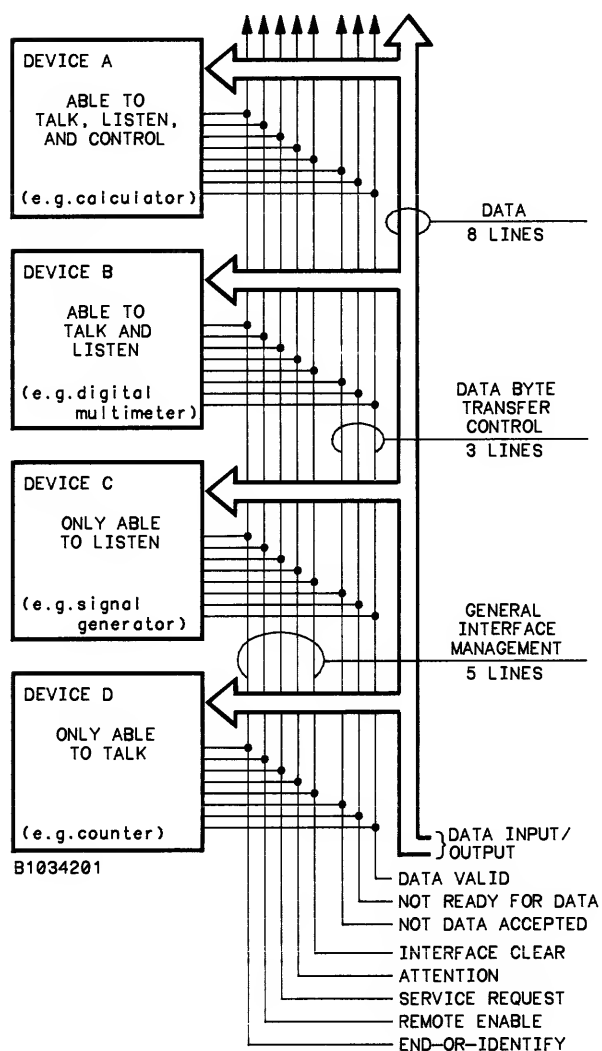

Figure A-1. HP-IB Interface Capabilities and Bus Structure.
The HP-IB structure is diagrammed in figure A-1. Four types of devices may be used on the bus based on their functions: (1) devices only able to talk, (2) devices only able to listen, (3) devices able to talk and listen, and (4) devices able to talk, listen, and control.
As shown in figure A-1, the 16 lines of the HP-IB form three functional groups: five lines for interface management, three lines for handshake (data byte transfer) control, and eight bidirectional lines for carrying data.